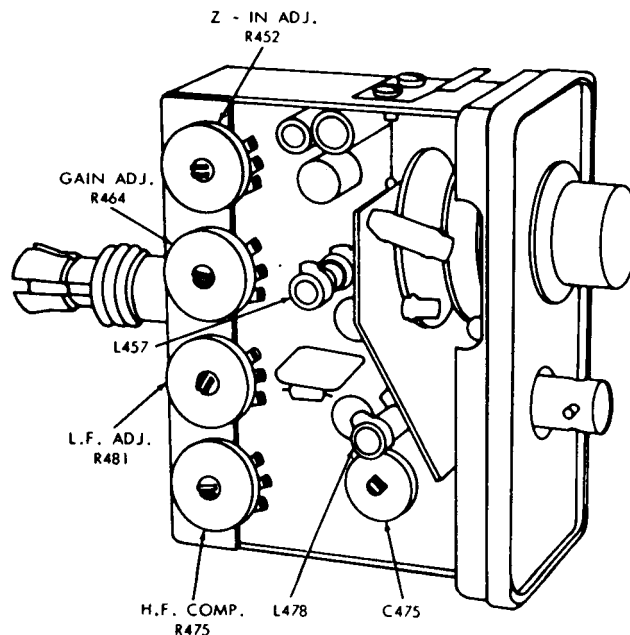

Figure 4. Current probe amplifier - typical left - interior view (types 131-1 through -4).
b. Adjustments. Adjust **Z-IN ADJ. R452** (fig. 4) until amplitude of waveform is equal to amplitude recorded in **a(6)** above. ®
b. Adjustments. Adjust **L.F. ADJ. R481** (fig. 4) until leading and trailing edges of waveform displayed on oscilloscope are of equal amplitude. (R)
(1) Turn TI **CURRENT/DIV.** switch to **1 mAMP.**
(2) Turn plug-in (A8) **VARIABLE VOLTS/CM** control to **CALIBRATED.** If oscilloscope (A7) does not indicate 4 centimeters of vertical deflection, perform **b** below.
b. Adjustments. Adjust **GAIN ADJ. R464** (fig. 4) for 4 centimeters of vertical deflection on oscilloscope. (R)
(2) Adjust **H.F. COMP. R475, C475, L457, and L478** (fig. 4) to obtain waveforms specified in **a(6)** above for TI current probe amplifier, types 131-1, -2, and -3. (R)
(3) Adjust **H.F. COMP. R475, C475, L457, L478** (fig. 4) and C468 (not shown) to obtain waveform specified in **a(6)** above for TI current probe amplifier, type 131-4. (R)